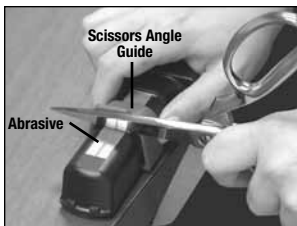

Figure 6. Suggested hold for left-handed scissors.
Step 1. Hold the sharpener handle with your right hand (Figure 6).